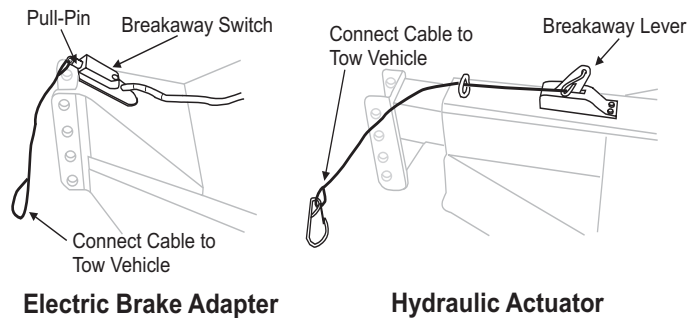

Figure 30. Breakaway Brake Systems
If the coupler or hitch fails, a properly connected and working breakaway brake system (Figure 30) will apply the hydraulic and/or electric brakes on the trailer. The safety chains will keep the tow vehicle attached and as the brakes are applied at the trailer's axles, the trailer/tow vehicle combination will come to a controlled stop.
- Connect the pull pin cable to the tow vehicle so that the pull pin will be pulled out before all of the slack in the safety chains is taken up (see Figure 30). **DO NOT** connect the pullpin cable to a safety chain or to the hitch ball or hitch ball assembly. This would keep the breakaway brake system from operating when it is needed.